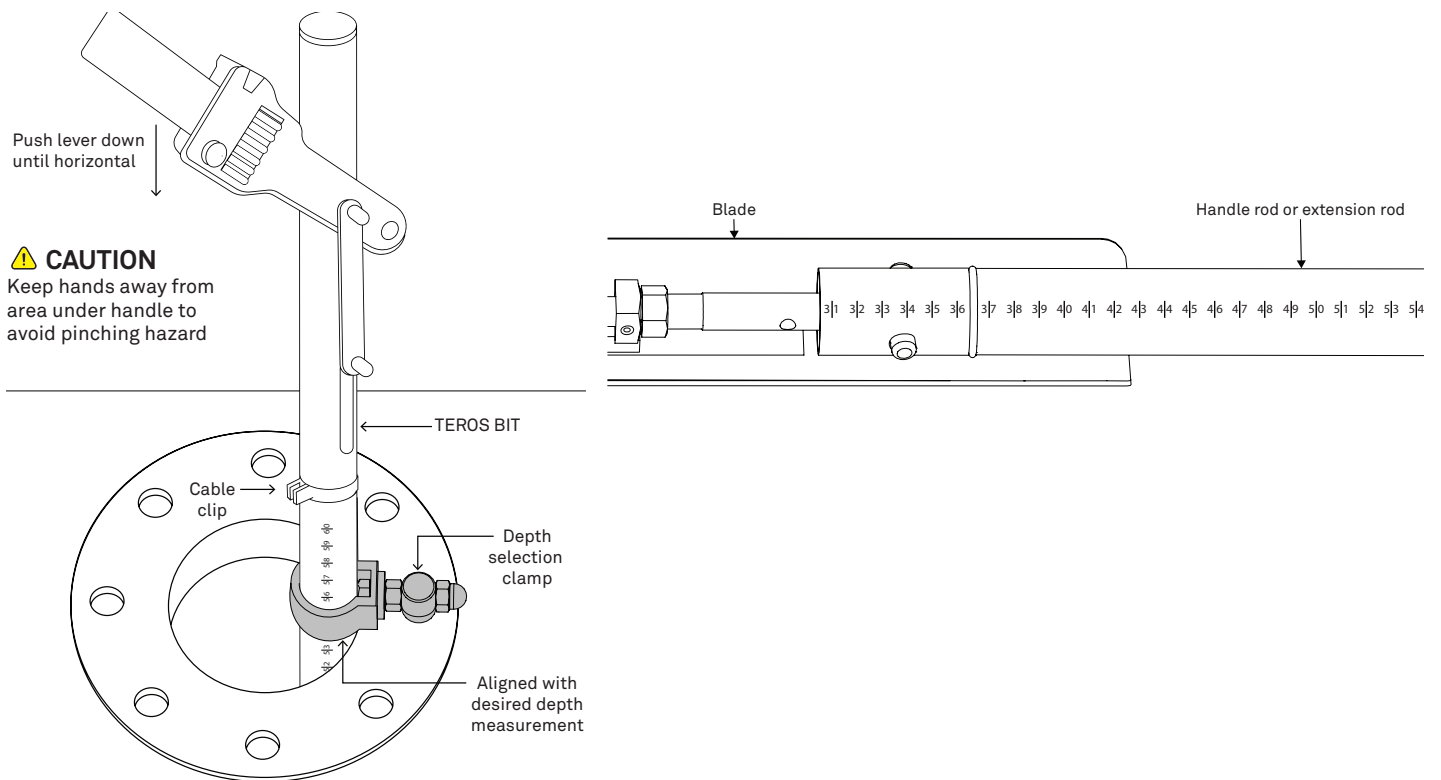

Figure 18 Mark flange and insert TEROS BIT into borehole
2. Mark the flange hole to be used (Figure 18).